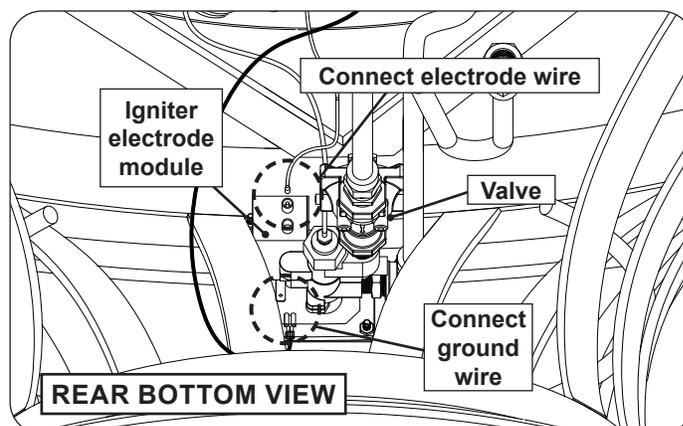

Fig. 36-4 Connect wires to electrode module
8. Locate the electrode wire and connect it to the round-pin terminal found on the back of the igniter electrode module. Then locate the ground wire and connect it to the 1/4" quick connect found on the side of the igniter electrode module (just behind the plate). See Fig. 36-4.